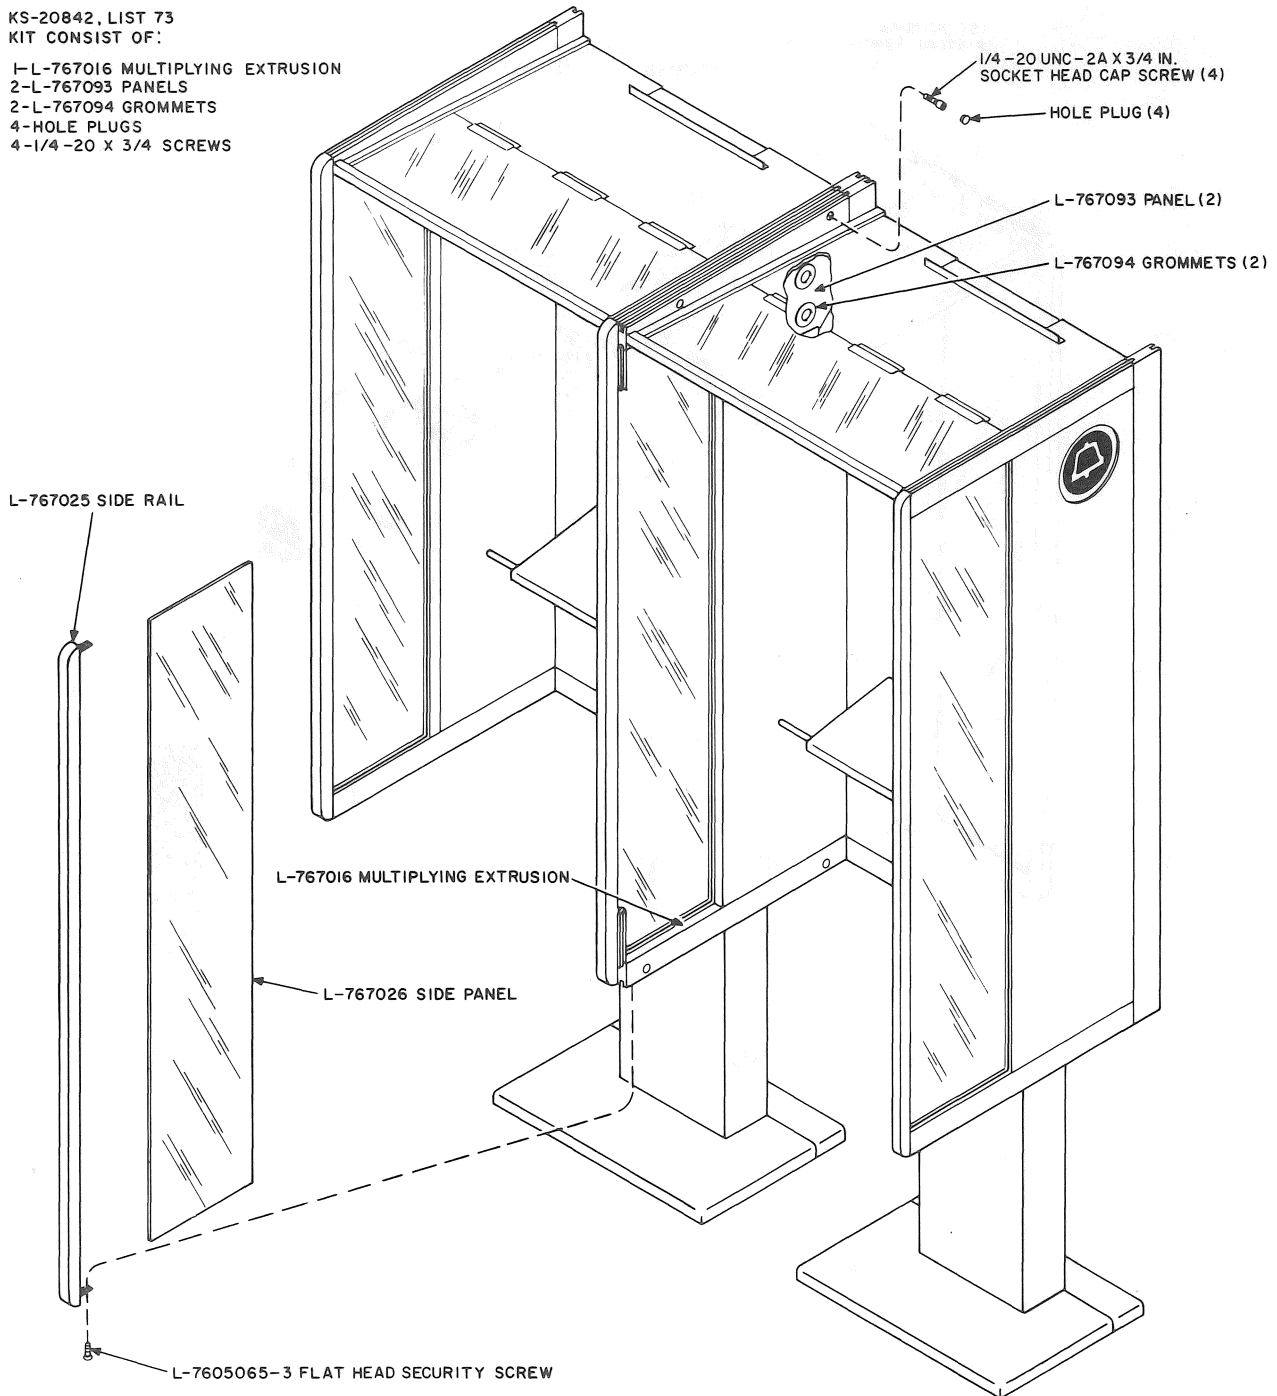

Fig. 27—KS-20842, List 32 Housing Installed Side-by-Side
Installation of List 32 Housing, Side-By-Side (Fig. 27 and 28)
3.16 Join the two housings together using the items in List 73 kits (Fig. 27) as follows: